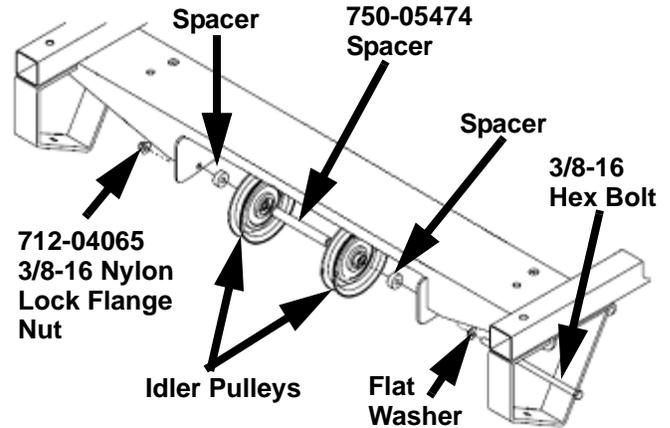

FIGURE 4
8. Assemble the idler pulleys and spacers as shown in Figure 4 using the new .385 ID x .750 OD x 4.89 LG spacer **750-05474**.